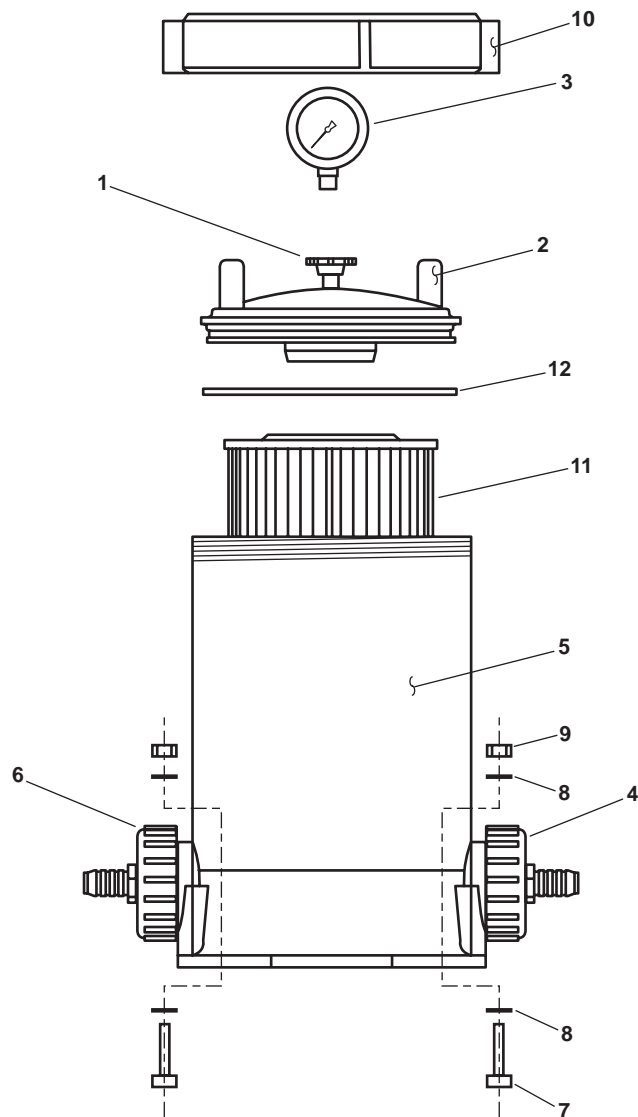

Figure 1. Filter Assembly
4. Slowly, OPEN the filter bleed screw (figure 1, item 1) on top of the filter housing lid (figure 1, item 2).
6. If applicable (table 1), remove the gauge (figure 1, item 3) from the filter housing lid (figure 1, item 2), and set aside.
7. Remove the inlet hose filter nut (figure 1, item 4) from the filter housing (figure 1, item 5).
8. Remove the outlet hose filter nut (figure 1, item 6) from the filter housing (figure 1, item 5).
9. Remove the four bolts (figure 1, item 7), eight flat washers (figure 1, item 8) and four self locking nuts (figure 1, item 9) that secure the filter housing (figure 1, item 5) in place. Discard the self locking nuts.
10. Remove the filter housing (figure 1, item 5).
1. Secure the filter housing (figure 1, item 5) in place using four bolts (figure 1, item 7), eight flat washers (figure 1, item 8), and four new self locking nuts (figure 1, item 9).
2. Install the outlet hose filter nut (figure 1, item 6) to the filter housing (figure 1, item 5).
3. Install the inlet hose filter nut (figure 1, item 4) to the filter housing (figure 1, item 5).
4. If applicable (table 1), install the gauge (figure 1, item 3) to the filter housing lid (figure 1, item 2).
5. Unscrew the filter housing lid retaining ring (figure 1, item 10), and remove it from the filter housing (figure 1, item 5).
6. Remove the filter housing lid (figure 1, item 2) from the filter housing (figure 1, item 5).
7. Thoroughly clean the interior of the new filter housing (figure 1, item 5) with fresh water and clean rags.
8. Thoroughly clean the filter housing lid (figure 1, item 2) using fresh water and clean rags.
9. Install a new filter element (figure 1, item 11) in the filter housing (figure 1, item 5).
10. Lubricate the O-ring (figure 1, item 12) with silicone compound, and install it on the filter housing lid (figure 1, item 2).
11. Place the filter housing lid (figure 1, item 2) on top of the filter housing (figure 1, item 5).
12. Place the lid retaining ring (figure 1, item 10) in position over the filter housing lid (figure 1, item 2), and tighten until snug.
14. OPEN the bleed screw (figure 1, item 1) on the filter housing lid (figure 1, item 2).
16. When the filter housing (figure 1, item 5) is full of water, as indicated by a solid stream of water flowing from the bleed screw (figure 1, item 1), CLOSE the bleed screw.